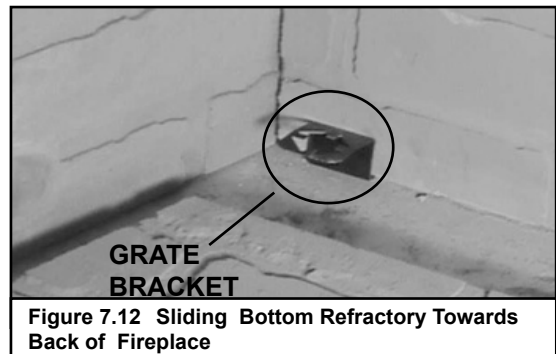

Figure 7.12 Sliding Bottom Refractory Towards Back of Fireplace
- When placing hearth stone into fireplace, slide it back until it fits tightly against back refractory (underneath grate brackets). See Figure 7.12.